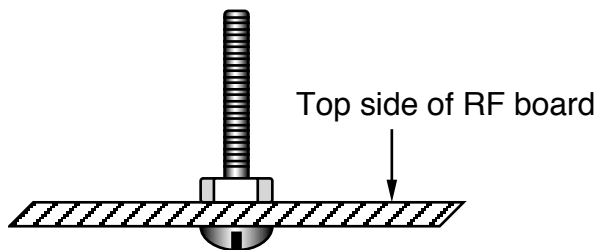

Figure 3
- ❑ Referring to Figure 3, insert the 5/8" (16 mm) nylon screw through the hole at the center of T5 from the bottom side of the RF board. Secure the screw to the RF board using a nylon hex nut on the top side.